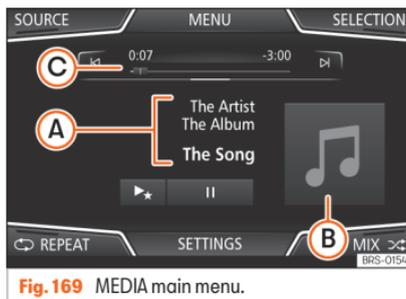

Fig. 169 MEDIA main menu.
The media source being played is indicated on the dropdown list when pressing the **SOURCE** function button  **Fig. 169**.
- Press the infotainment button **MEDIA /**  to open the *Media*  **Fig. 169** main menu.